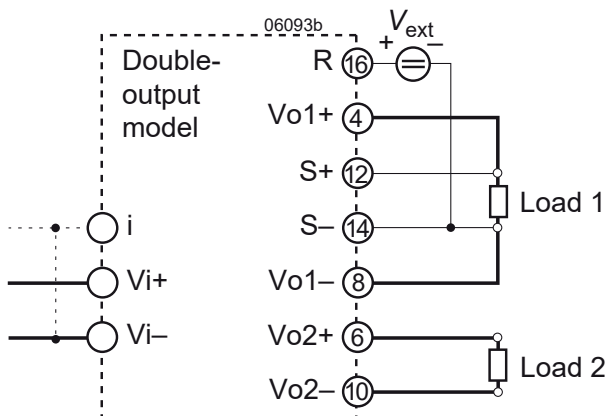

Fig. 20 Output adjust using an external control voltage  $V_{ext}$
a) Adjustment by means of an external control voltage  $V_{ext}$  between R (pin 16) and S– (pin 14); see fig. 20.